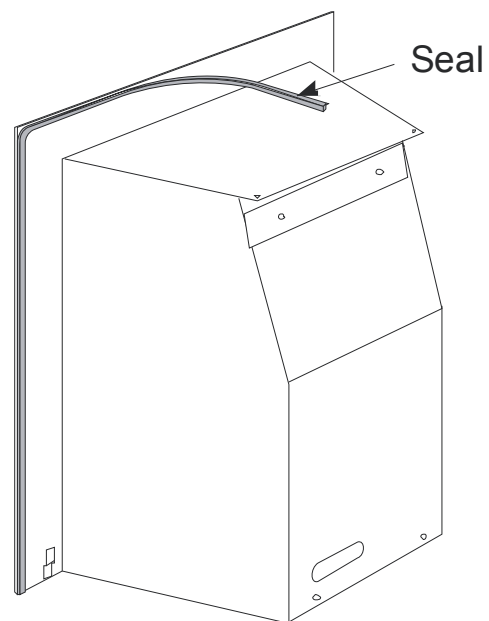

Figure 61
3. Apply the foam sealing strip all round the rear edge of the firebox flange by removing the protective backing paper (see **Figure 61**).